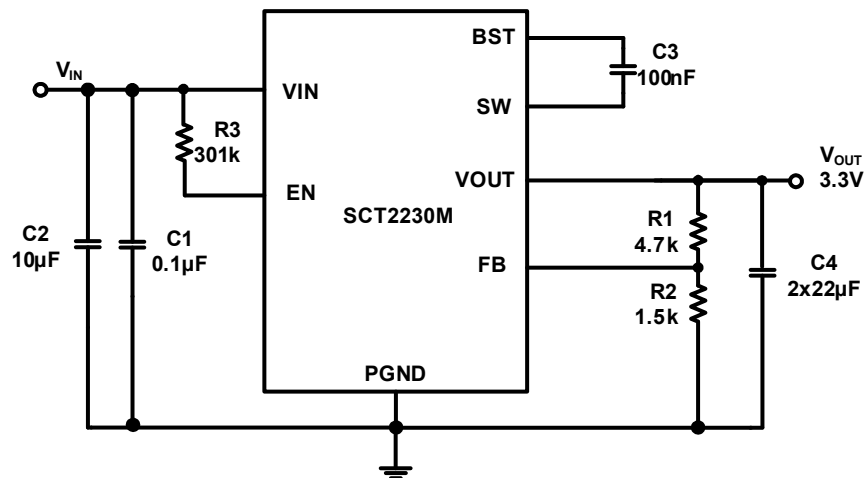

Figure 8. 12V Input, 3.3V/2A Output
The SCT2230M features external programmable output voltage by using a resistor divider network R1 and R2 as shown in the typical application circuit Figure 8. Use equation (6) to calculate the resistor divider values.